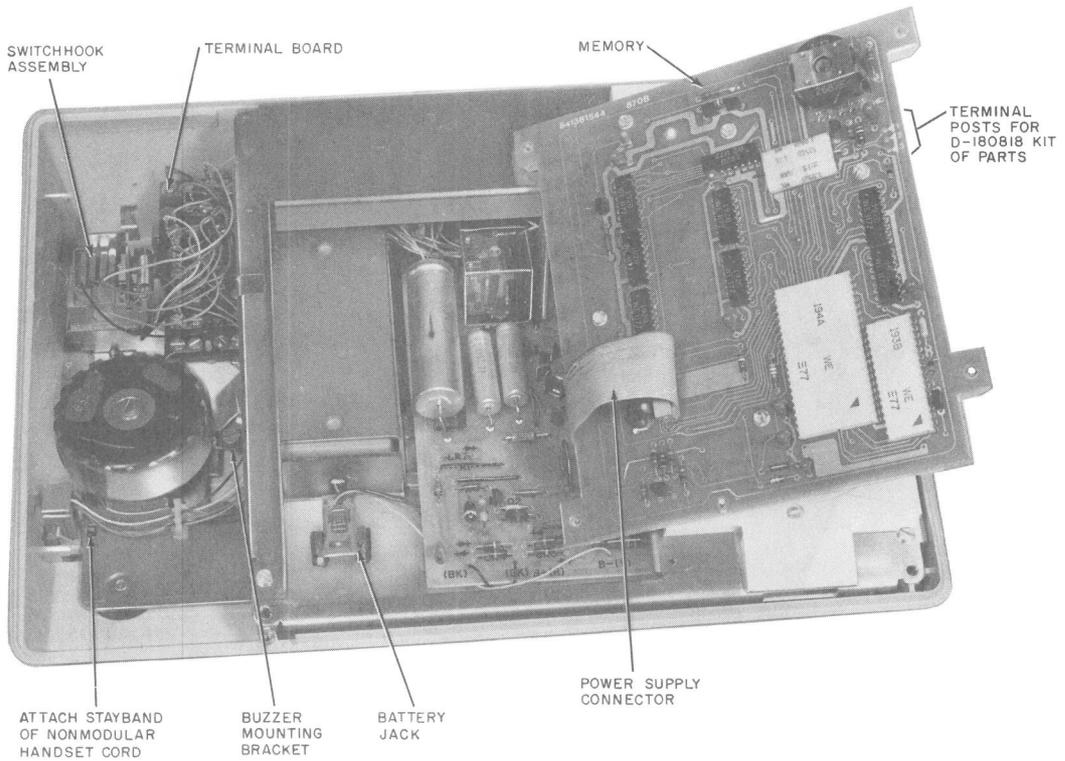
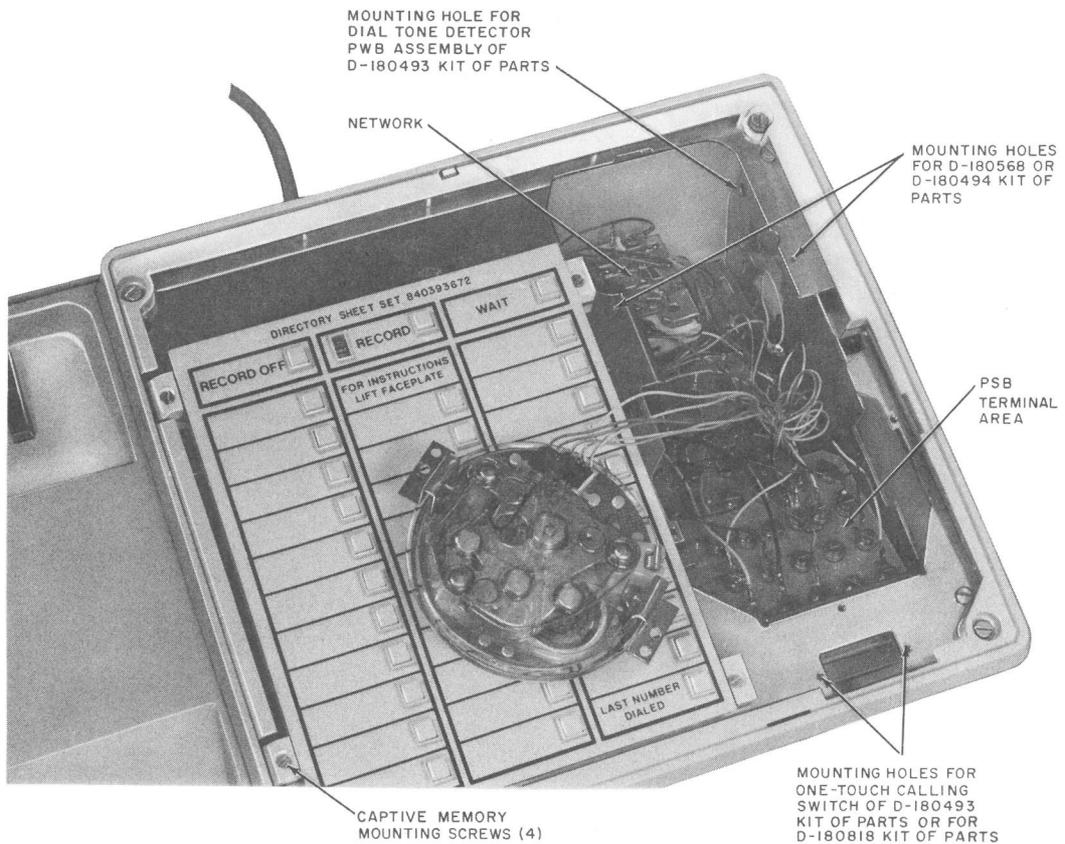

Fig. 3—870A2M Telephone Set—Internal View
Fig. 4—870A2M Telephone Set—Dial Removed to Show Terminal Area
- (1) Proceed as described in 3.18.
- (2) Make connections per appropriate Table B, C, D, or E.
- (3) Mount the kit assembly to the chassis with the screws provided (Fig. 4). Beveled corner of the printed wiring board (PWB) should be at lower right corner.
- (1) Remove the housing (3.21), and access PSB terminal board (3.18).
- (2) Insert the board assembly from the back of the set and locate as shown in Fig. 4, such that the two tabs on the board assembly fit into the slots in the chassis.
- (1) Remove faceplate (3.19).
- (2) Loosen the captive screw at the bottom of the cover around the dial and remove the cover.
- (3) Disengage the four captive memory mounting screws (Fig. 4).
- (4) Remove the two captive dial mounting screws and move dial aside.
- (5) Rotate left edge of the memory upward as shown by Fig. 3.
- (1) Remove faceplate (3.19) and place handset aside.
- (2) Remove handset cradle (3.20).
- (3) Remove screw from buzzer mounting bracket, and mount buzzer on bracket shown in Fig. 3.